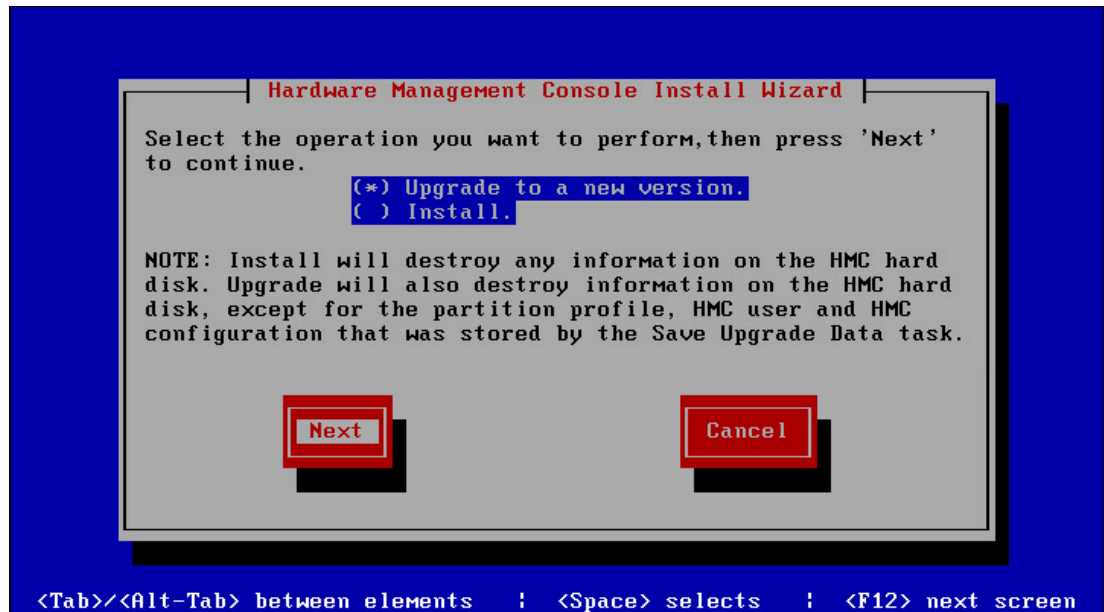

Figure 3-128 Choose Upgrade
6. Press the Tab key to select **Upgrade to a new version** (Figure 3-128). Then, select **Next**, and press the Enter key.